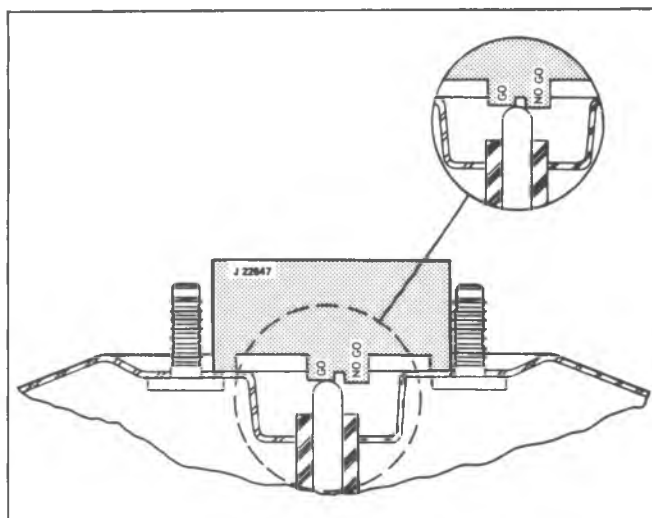

Fig. 5-5D-Gaging Piston Rod
5. Place Gage J-22647 over the piston rod in a position which will allow the gage to be slipped to the left or right without contacting the studs (fig. 5-5D).